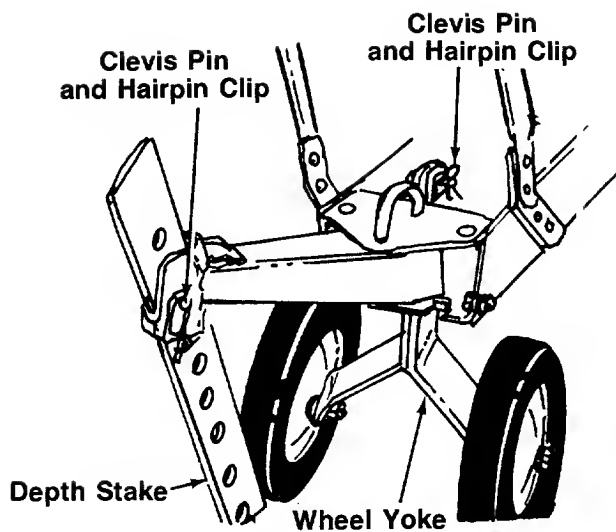

FIGURE 16.
The tiller is shipped with the wheels adjusted such that the unit sits level. During digging as the tines enter the ground and the front of the tiller lowers, the wheels must be raised to level the unit, which is essential for proper engine operation. This adjustment is made by removing the clevis pin and hairpin clip from wheel yoke, raising the wheels to the desired height, and replacing the clevis pin and hairpin clip. See figure 16.
1. **Wheel Yoke Adjustment:** Place wheel yoke so that the wheels are forward (nearest point between wheels and tines) for shallow tilling, cultivating and transport. The forward speed will increase. Turn yoke around (farthest point between wheels and tines) for deep tilling. Forward speed will decrease. See figures 16 and 18.
2. **Depth Stake Adjustment:** The depth stake acts as a brake for the tiller and controls the depth and speed at which the machine will operate. Remove the clevis pin and hairpin clip to raise or lower depth stake. See figure 16.